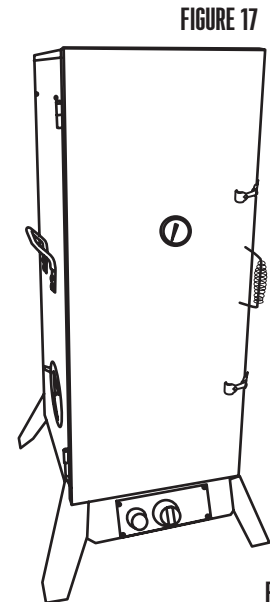

FIGURE 17
1. Remove the Nut from the back of the Temperature Gauge and insert the Temperature Gauge into the Door Panel. **FIGURE 17** Make sure the Temperature Gauge numbers are positioned right side up. **FIGURE 18**